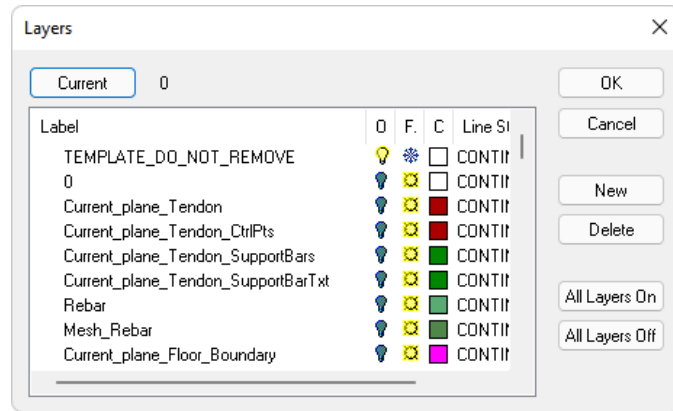

FIGURE 5-8
- Click on the **Layer Settings** icon in the *Bottom Quick Access* toolbar. This will open the *Layers* window as shown in **FIGURE 5-8**.